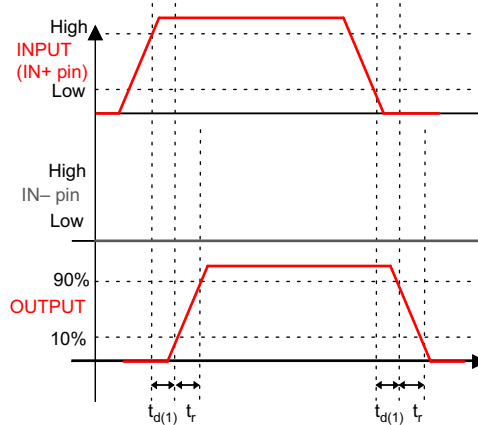
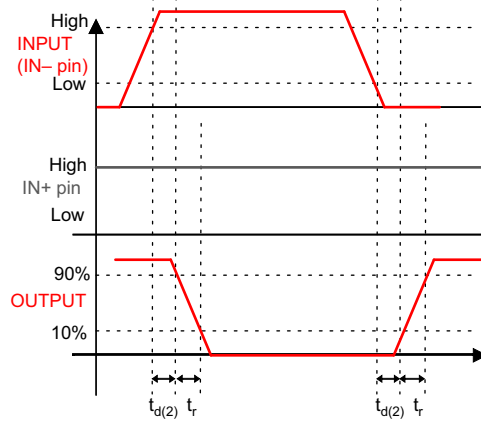

Figure 5-1. Non-Inverting Configuration (PWM Input to IN+ pin (IN- Pin Tied to GND), Output Represents OUTH and OUTL Pins Tied Together in the UCC27511A-Q1)
Figure 5-2. Inverting Configuration (PWM Input to IN- Pin (IN+ Pin Tied to V_{DD}), Output Represents OUTH and OUTL Pins Tied Together in the UCC27511A-Q1)
$V_{DD} = 12\text{ V}$, $T_A = T_J = -40^\circ\text{C}$ to 140°C , $1\text{-}\mu\text{F}$ capacitor from V_{DD} to GND. Currents are positive into, negative out of the specified terminal. See Figure 5-1, Figure 5-2, Figure 5-3, and Figure 5-4
(1) See timing diagrams in Figure 5-1, Figure 5-2, Figure 5-3, and Figure 5-4.